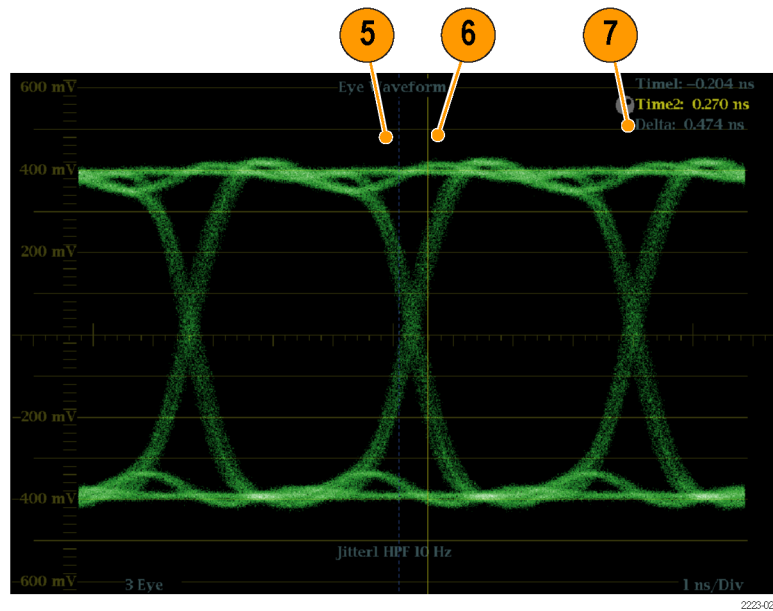

Figure 54: Measuring rise time using variable gain in eye
5. Position the first timing cursor at the crossing of the rising edge of the Eye waveform and the graticule line two divisions above the bottom of the waveform. (See Figure 54.)
6. Position the second time cursor at the crossing of the rising edge of the Eye waveform and the graticule line two divisions below the top of the waveform. (See Figure 54.)
7. Note the 20 – 80% rise time measurement displayed in the Delta time readout. (See Figure 54.)